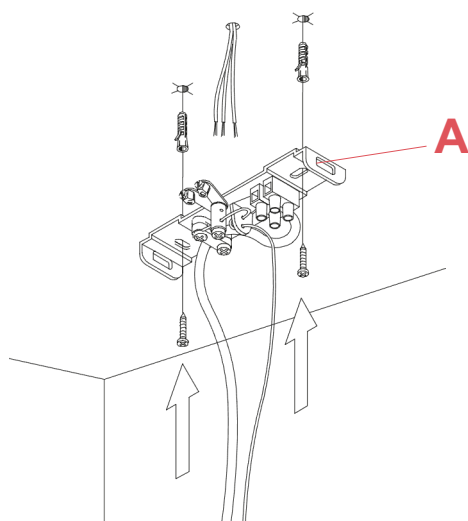

Fig.1
Fix the wall fixture (A) with the appropriate expansion bolts. **NOTE:** Select and employ screw anchors which are suited to the surface where the appliance is to be installed.(Fig.1)